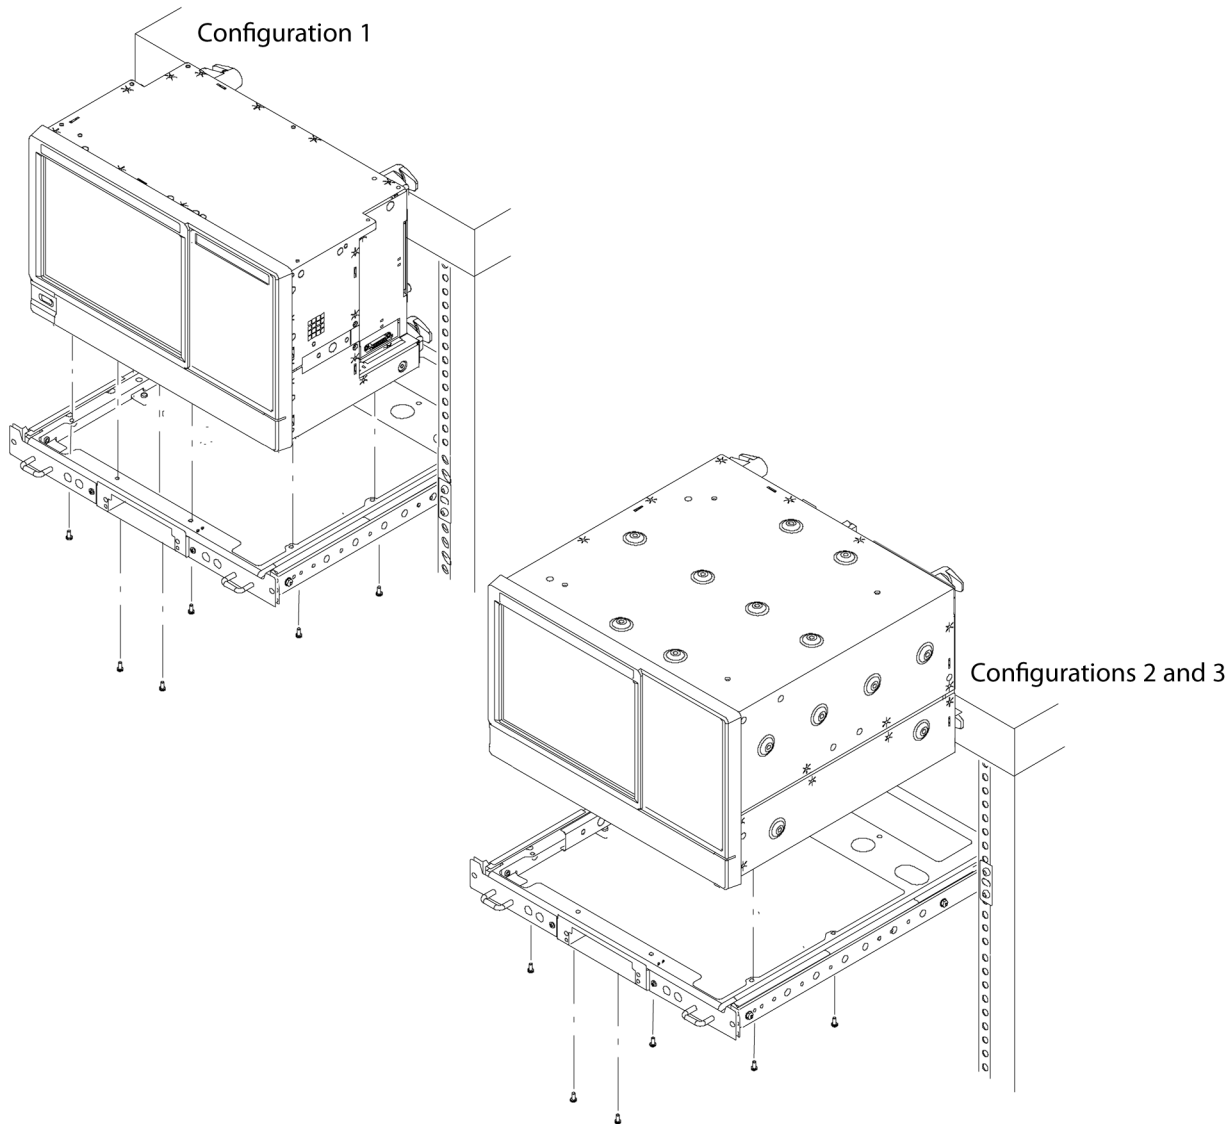

Figure 8: Installing the instrument on the rack plate
4. Install your instrument on the rack plate as shown. (See Figure 8.)